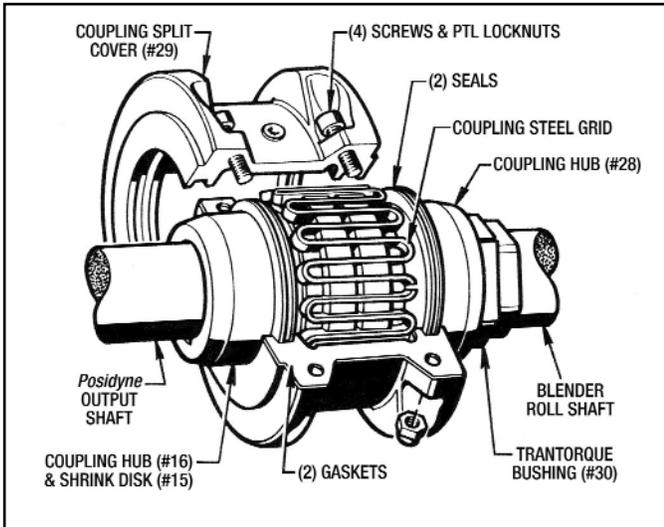

Figure 4 - Coupling Assembly
- Place the Coupling (#29) grid over the coupling hubs and into the grid slots. Place the Split Coupling Cover (#29) over the hubs and grid. Make sure the (2) gaskets and both sealing rings are in place. (See Figure 4) Also see the Falk Steelflex Type T10 Installation Instructions sheets .